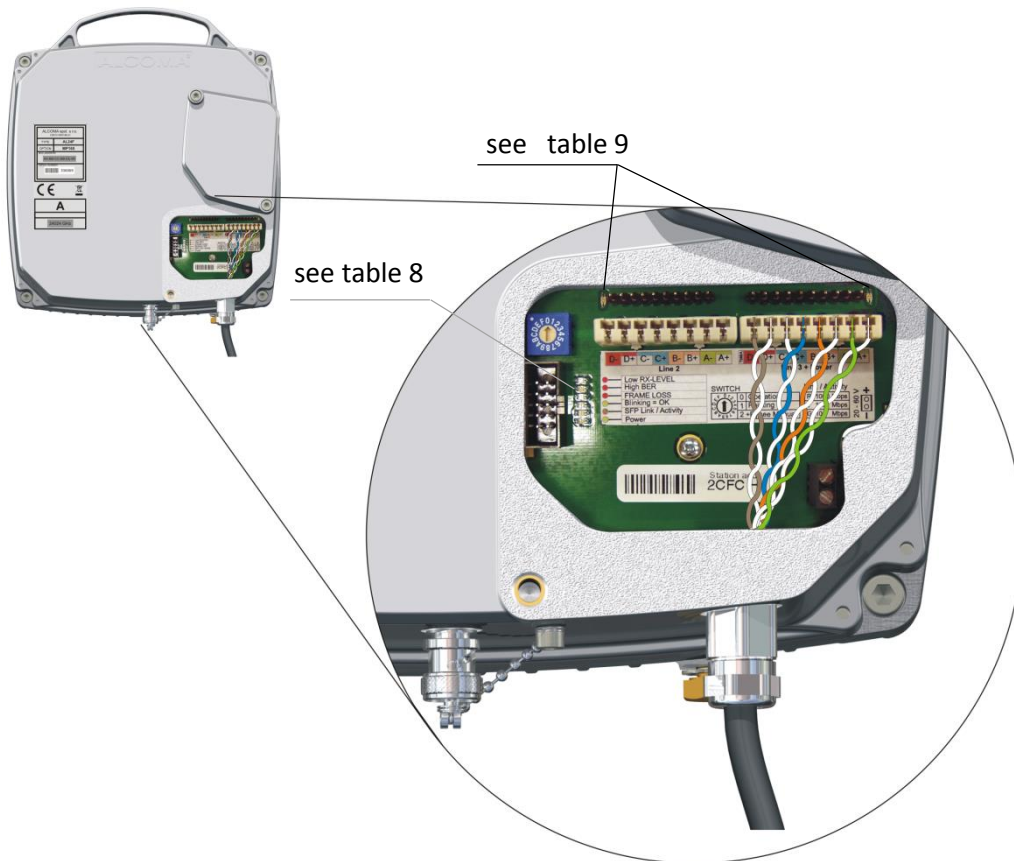

Figure 9 The ODU user space 1xEthernet
- The cover of the terminal box space in ODU is opened using an Hexagon wrench no. 5 (Figure 9).